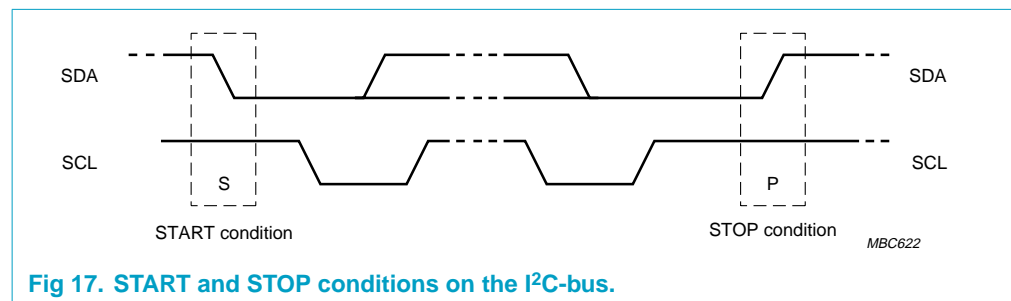

Fig 17. START and STOP conditions on the I²C-bus.
Both data and clock lines remain HIGH when the bus is not busy. A HIGH-to-LOW transition of the data line, while the clock is HIGH is defined as the start condition (S). A LOW-to-HIGH transition of the data line while the clock is HIGH is defined as the stop condition (P); see Figure 17.